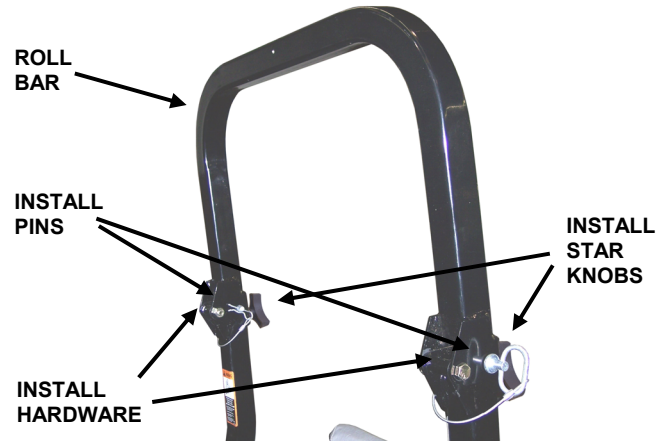

FIGURE 2
B. Attach roll bar to side bars, securing with two 1/2-13 x 3-1/4" hex bolts and lock nuts through the hinges. See Figure 2. **NOTE:** Make sure roll bar tilts backward when folded.
C. Raise roll bar to fully upright position, aligning locking holes in roll bar with corresponding holes in side bars. Insert locking pin through each hole, and secure with connected bridge pin. Install star knobs into threaded holes in front of roll bar, and tighten securely. See Figure 2.